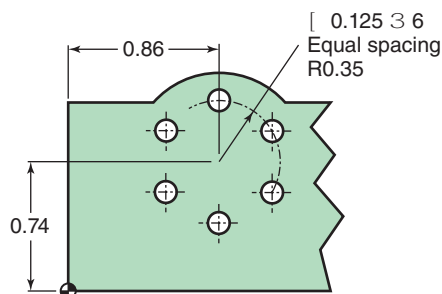
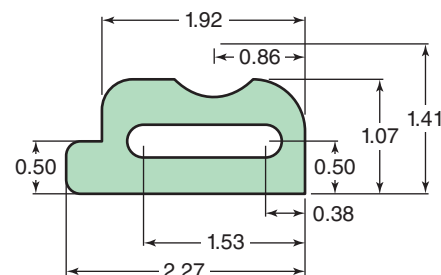

Figure 24-31 Describe several ways to write the program code without CAM software.
Figure 24-32 Problem 10. Where should the PRZ be located?
7. In handwriting a program for Fig. 24-31, the bolt circle holes must be drilled. Name at least three possible methods of writing this portion of the program other than graphic/CAM. What is the fastest of all three? (17, 23)
8. Is this statement true or false? Cartesian coordinates that refer to the PRZ for their values are known as absolute Cartesian coordinates. If it is false, what will make it true? (17)
9. Name in their order of importance the two guideline rules for selecting the PRZ. (17)
10. Where should the PRZ be chosen for the mill job shown in Fig. 24-32? (17)
11. A hemisphere must be machined on the top of an odd-shaped casting. The shop has a CNC lathe and 2-D CNC mill; describe at least two simple ways in which it might be machined. (17)
12. Identify and describe three electrical CNC drive components. (18)
13. What is the function of a ball-screw in a CNC machine? (18)
14. Is this statement true or false? DNC can be accomplished in bulk or drip feed modes from the CNC control to the host computer. If it is false, what will make it true? (18)
15. Some CNC machines require a *home cycle* when initially turned on, while others do not—why? (19)
17. During a setup, you wish to position the tool turret of a turning center at an exact position within the work envelope with respect to machine home zero. Name three operator methods of accomplishing this move. (19)
18. Name and describe three position screens commonly found on a CNC control. (19)
19. To correctly use the MPG, one must place the control in _____ mode and also use two other operator controls. Name and describe them. (19)